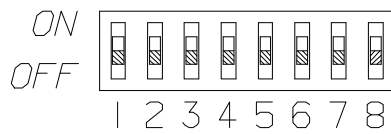

Figure C-6. Password Enabling Switches
5. Each switch is labeled with its number and its position. FIGURE C-6 also shows the switch bank with its numbered switches.